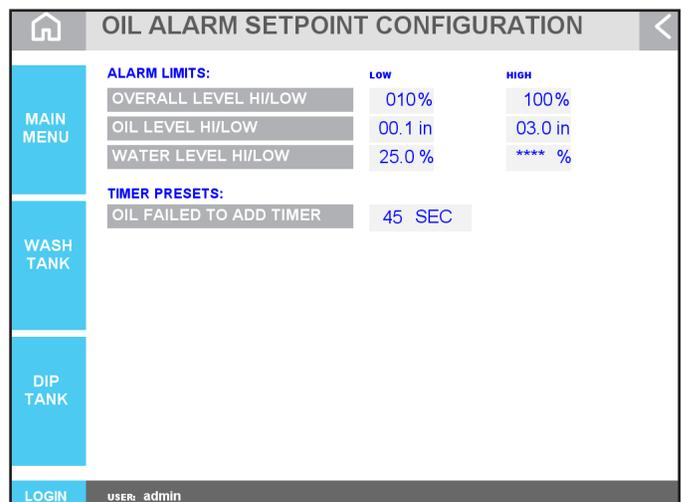

Figure 8.2: Dip Tank Alarm Set Point Configuration screen
3. From this screen the following settings can be configured [Figure 8.2]: